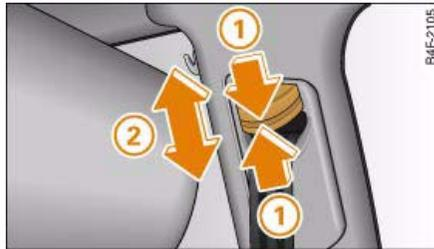

Fig. 212 Belt height adjustment for the front seats: guide fitting
- Take hold of the guide fitting and *slide it up* ⇒ fig. 212 ②, or
- *Compress the adjuster* ① and *slide the guide fitting downwards* ②.